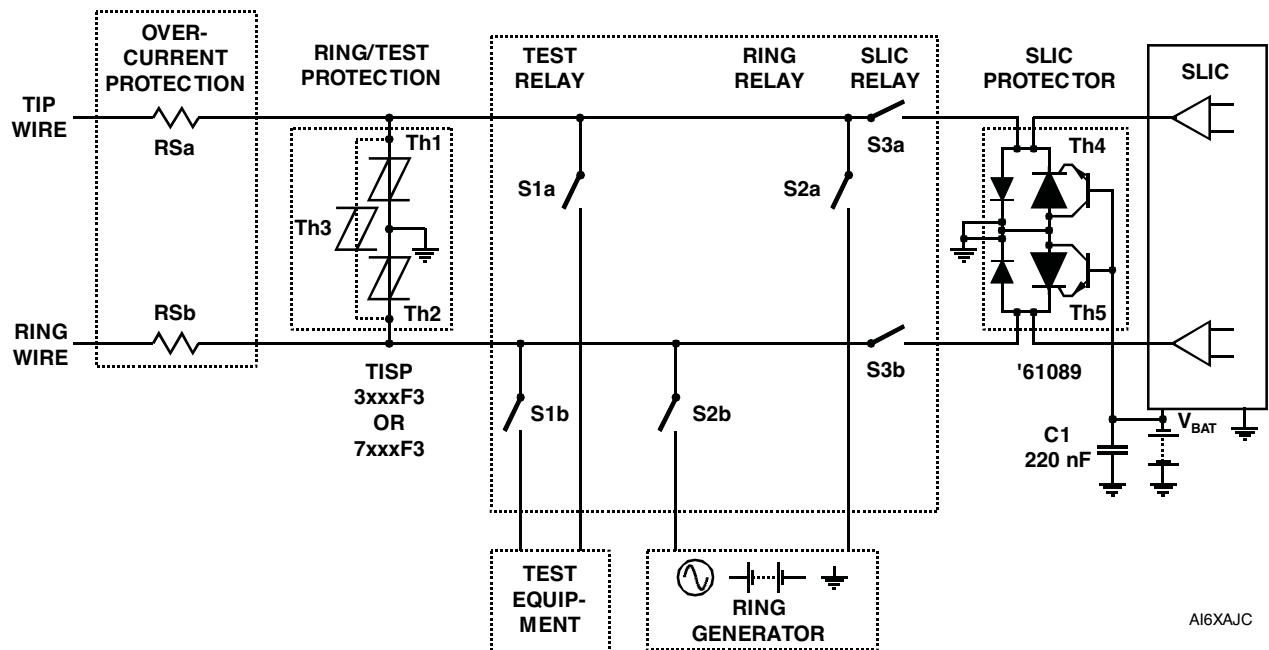

Figure 6. Typical Application Circuit
Figure 6 shows a typical '61089 part SLIC card protection circuit. The incoming line conductors, Ring (R) and Tip (T), connect to the relay matrix via the series overcurrent protection. Fusible resistors, fuses and positive temperature coefficient (PTC) thermistors can be used for overcurrent protection. Resistors will reduce the prospective current from the surge generator for both the '61089 device and the ring/test